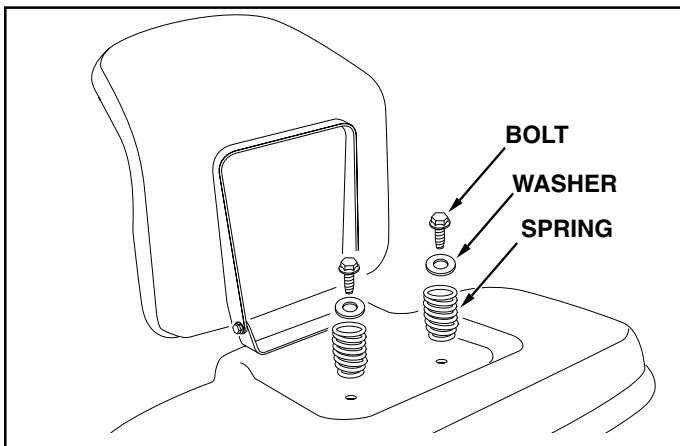

FIGURE 1
- Raise the tractor seat, unscrew the seat spring bolts and remove the springs from the rear fender. See figure 1.